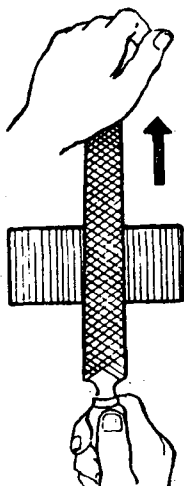

Fig. 5
1. Filing may be done with a straight or slantwise motion (Figs. 5 and 6).